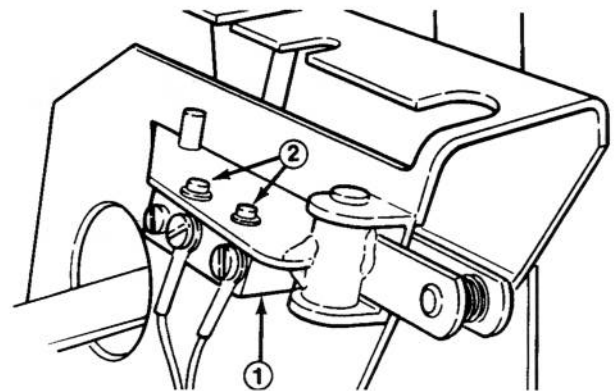

Figure 11
2. Check the clutch switch (Fig. 11) with a continuity tester or ohm meter and replace it if damaged. The switch must be closed when the gear shift lever is in a gear. The switch must open when shifting between Neutral, First, and Second gears.